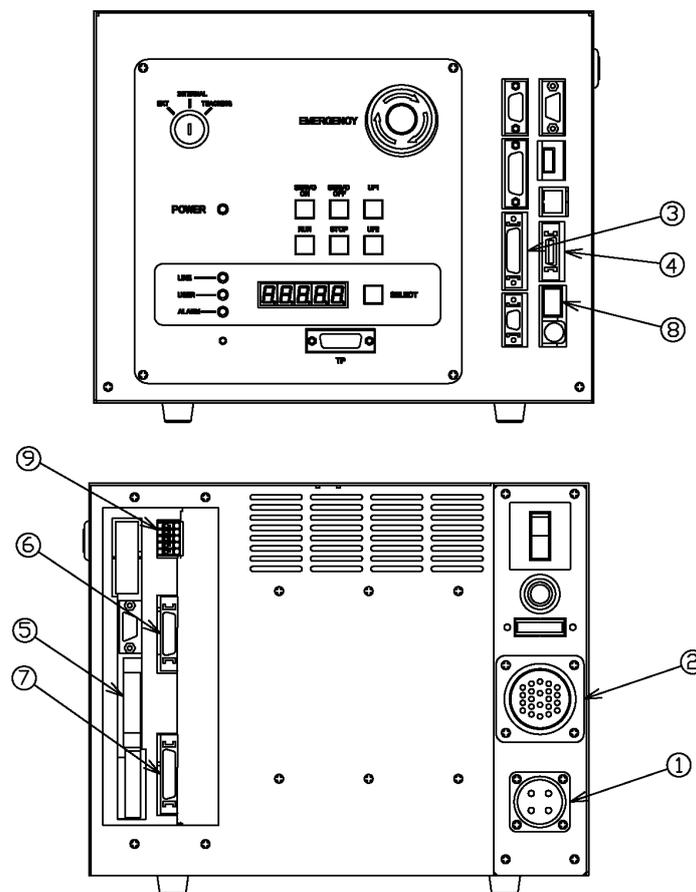
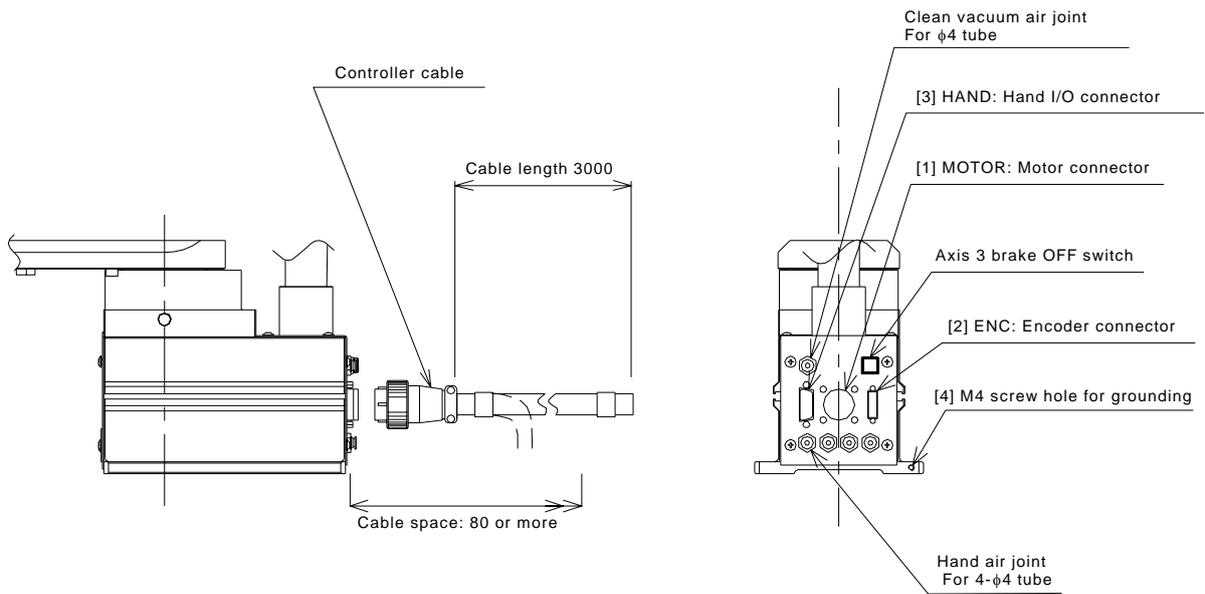
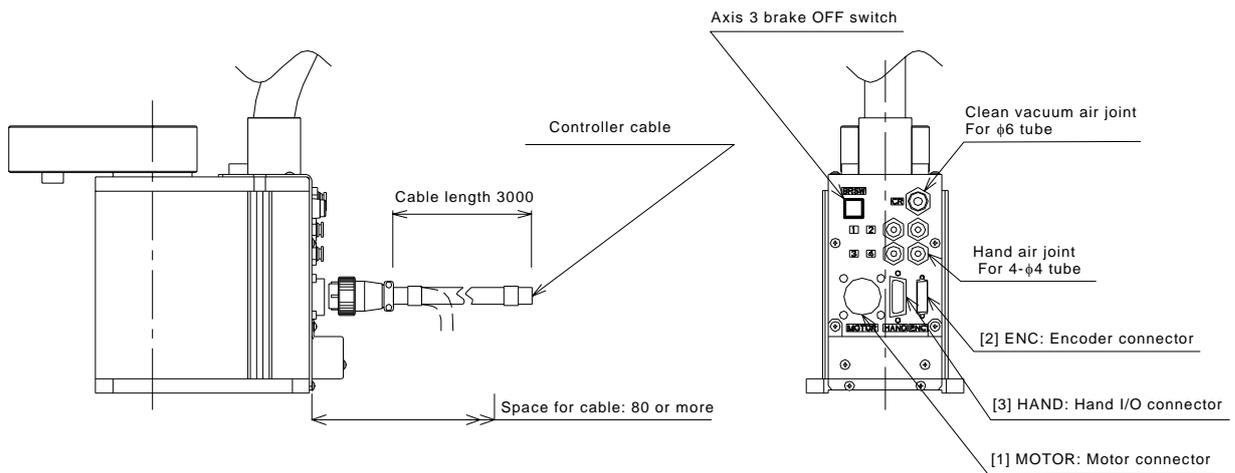
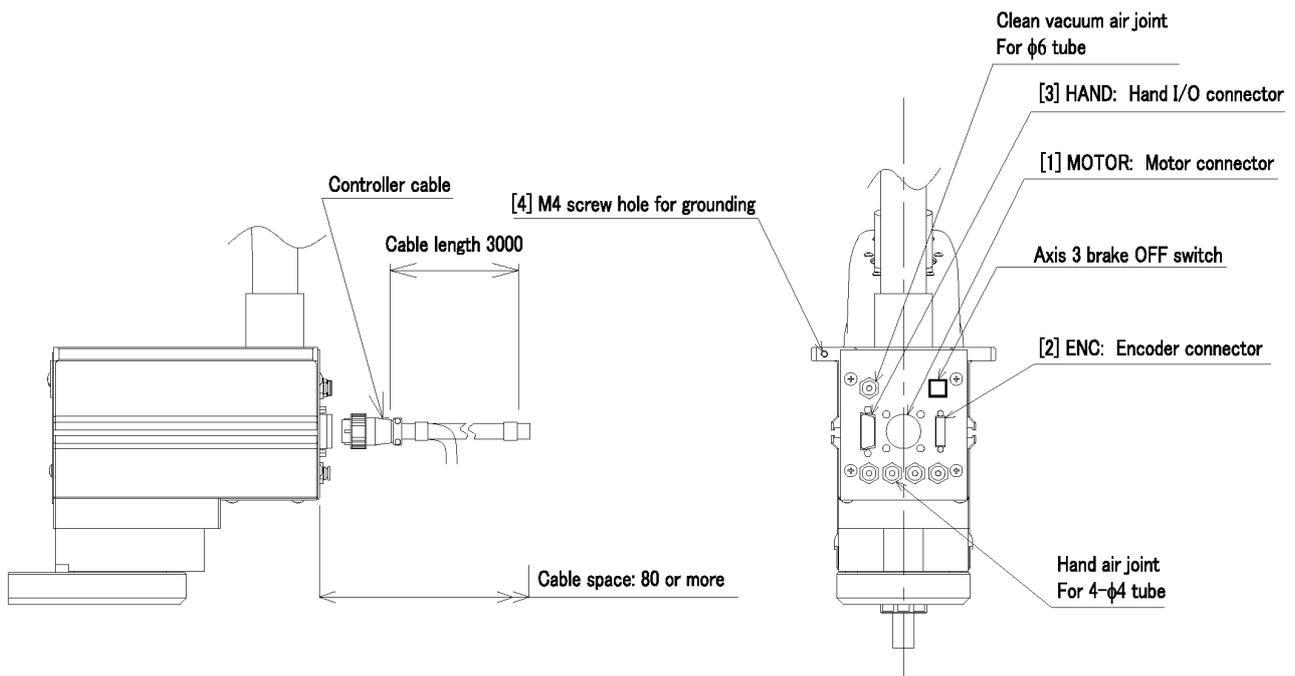

Fig. 3.1 TS3000 robot controller connector layout
Fig. 3.2 Robot side connector layout drawing (TH250A, TH350A)
Fig. 3.3 Robot side connector layout drawing (TH180)
Fig. 3.4 Robot side connector layout drawing (TH350A-T)
The cables connected to the TS3000 robot controller are shown in Fig. 3.1.
3.1.2 Connecting the Power Cable “ACIN” [1] of Fig. 3.1 (Plug Connector Attached)
The connector is ACIN (Fig. 3.1-[1]).
3.1.3 Connecting the Motor Cable “MOTOR” Fig. 3.1-[1] (Cable Attached)
The connector for connecting the motor cable is MOTOR (Fig. 3.1-[1]). The locations of the MOTOR connectors on the robot side are shown in Fig. 3.2-[1], Fig. 3.3-[1] and Fig. 3.4-[1].
3.1.4 Connecting the Encoder Cable “ENC” Fig. 3.1 [3] (Cable attached)
The connector for connecting the encoder cable is ENC ([3] of Fig. 3.1).
The locations of the ENC connectors on the robot side are shown in Fig. 3.2-[2], Fig. 3.3-[2] and Fig. 3.4-[2].
3.1.5 Connecting the Hand Control Signal Cable “HAND” Fig. 3.1-[4] (Cable Optional)
The hand control signal cable is used for input and output of robot control signals such as the hand operation signal. The connector for connecting the hand control signal cable is HAND (Fig. 3.1-[4]).
The locations of the HAND connectors on the robot side are shown in Fig. 3.2-[3], Fig. 3.3-[3] and Fig. 3.4-[3].
3.1.6 Connecting the Brake Signal Cable "BRK" Fig. 3.1-[8] (Cable Attached)
The connector for connecting the brake signal cable is BRK (Fig. 3.1-[8]).
The locations of the BRK connectors on the robot side are shown in Fig. 3.2-[1], Fig. 3.3-[1] and Fig. 3.4-[1].
An M4 screw hole for grounding is provided in the base section of the robot's main body. (Fig. 3.2-[4] and Fig. 3.4-[4]). Be sure to securely connect the protective conductor of the entire facility with this M4 screw hole.